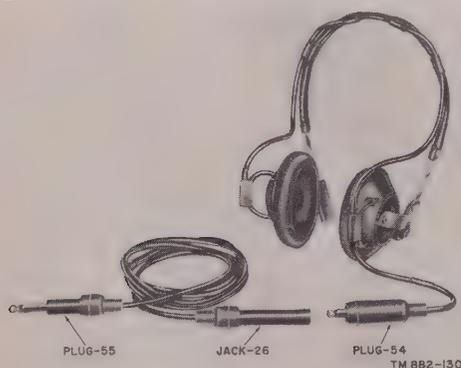

Figure 7. Headset Cord CD-307-A and headset Navy type CW-49507.
12. Description of Headset Navy Type CW-49507 (fig. 7)